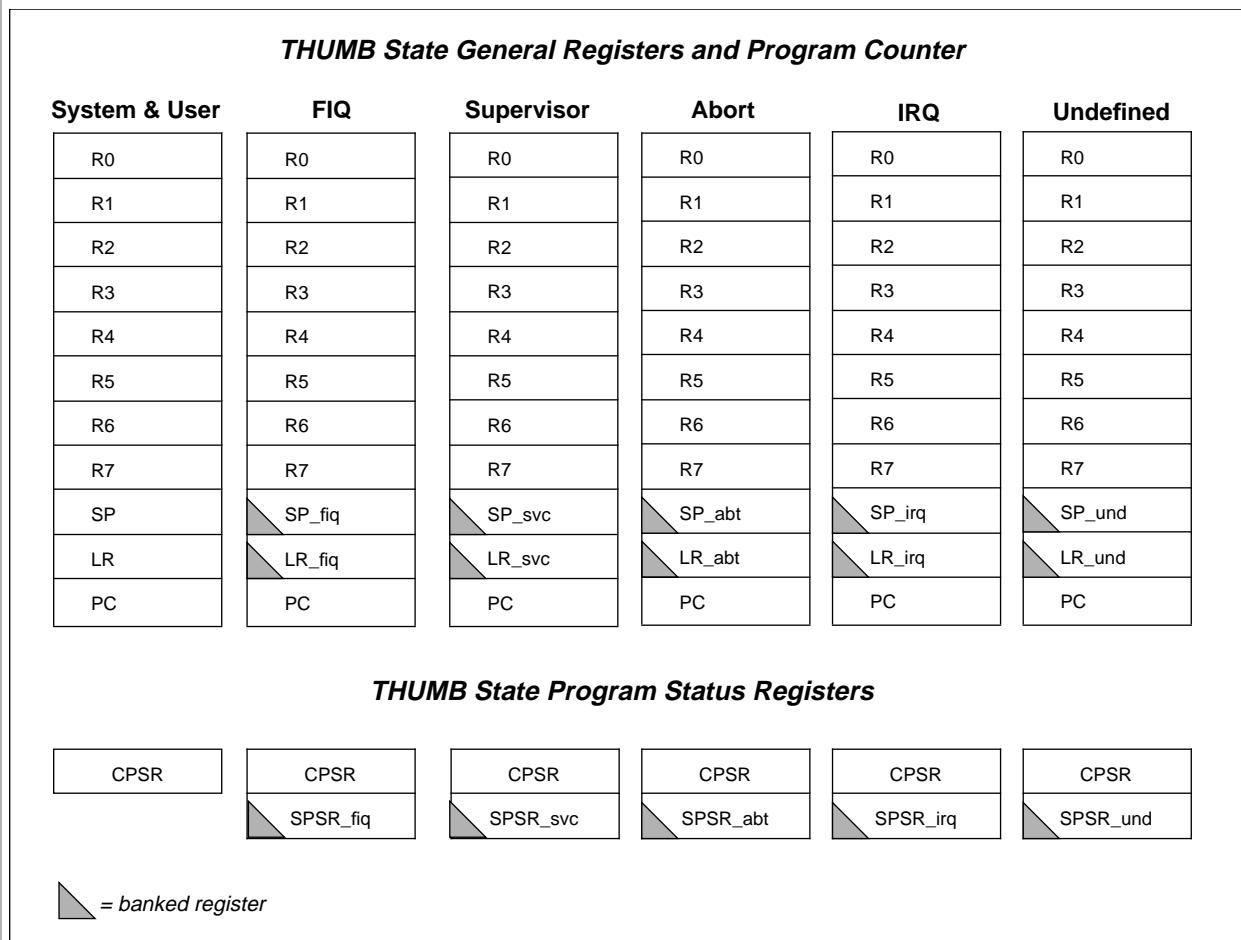

Figure 3-4: Register organization in THUMB state
The THUMB state register set is a subset of the ARM state set. The programmer has direct access to eight general registers, R0-R7, as well as the Program Counter (PC), a stack pointer register (SP), a link register (LR), and the CPSR. There are banked Stack Pointers, Link Registers and Saved Process Status Registers (SPSRs) for each privileged mode. This is shown in *Figure 3-4: Register organization in THUMB state*.